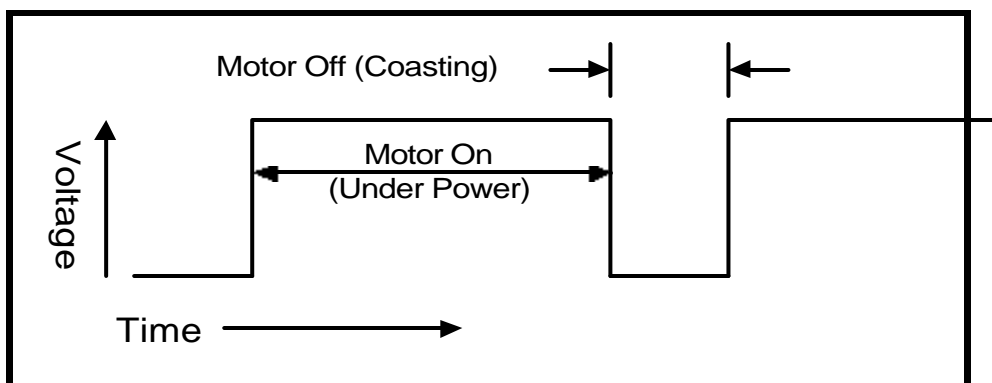

Figure 2
**Figure 2** shows a motor being run at a much higher speed. Power is being supplied to the motor a large percentage of the time. The motor spends much less time coasting and more time being driven so it runs faster.